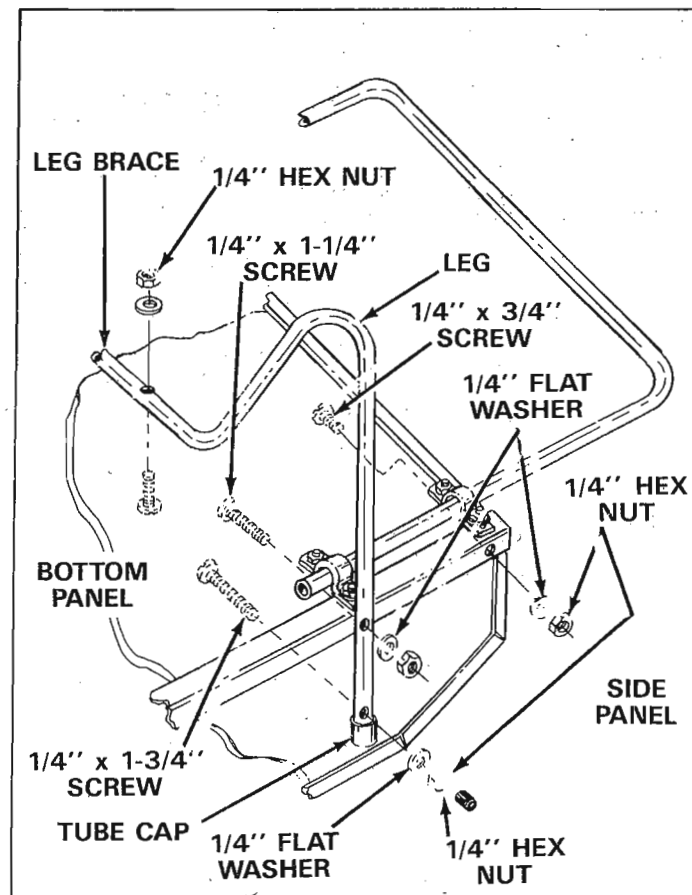

FIGURE 10.
Place tube caps on ends of "W" leg. See figure 10.
18. With cart still upside down, assemble the leg to bottom and side of cart. Line up holes in center of "W" leg with two holes in bottom. Secure with two 1/4" x 1-3/4" screws, inserted from inside of cart, fasten with 1/4 flat washers and 1/4 hex nuts. See figure 10. Do not tighten at this time.
19. Assemble the leg to each of the side panels with two 1/4 x 1-3/4" screws, inserted from inside of cart, fasten with 1/4 flat washers and hex nuts. See figure 10. Assemble 1/4" x 3/4" screws in back hole of both side angles and fasten with 1/4" flat washers and hex nuts.
20. Now tighten all screws and nuts securely. Install rubber caps on 1/4 x 1-3/4" screws as shown in figure 10.